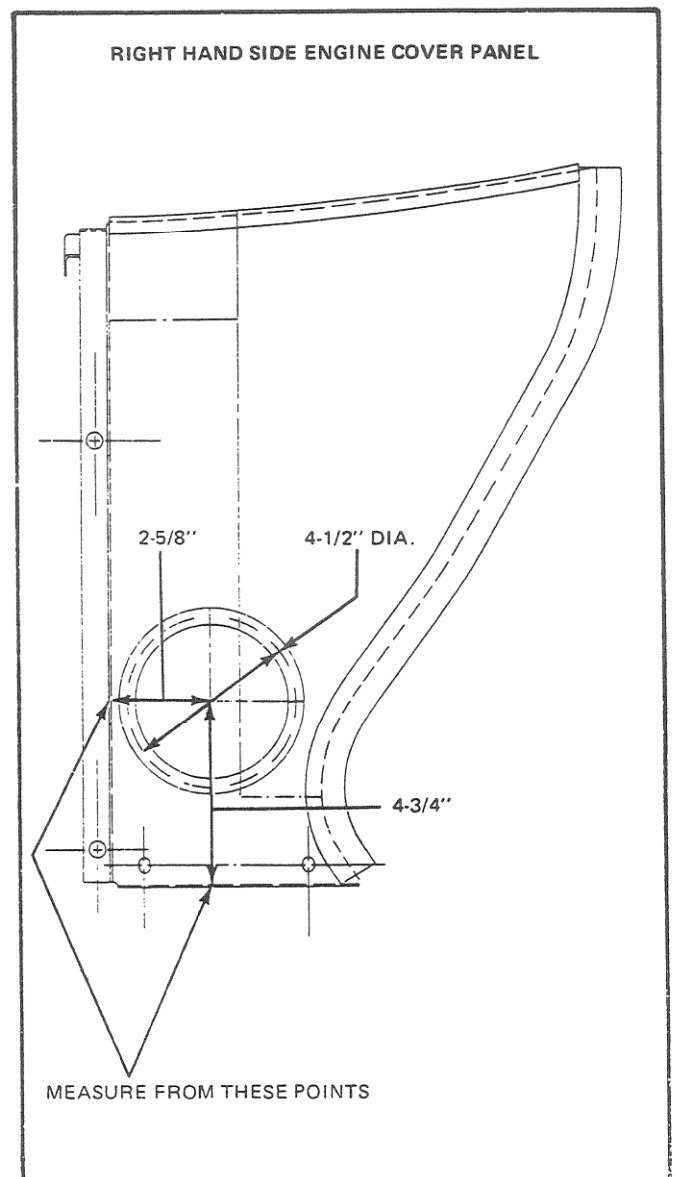

Fig. 1 – Article 96
2. Remove four (4) grille screws (or release Dzus fasteners) and remove grille assembly.
3. Remove two (2) screws from the right hand engine cover panel-to-rear support bracket and remove the cover panel.
4. Measure the exact location and cut an access hole as shown in Fig. 1.